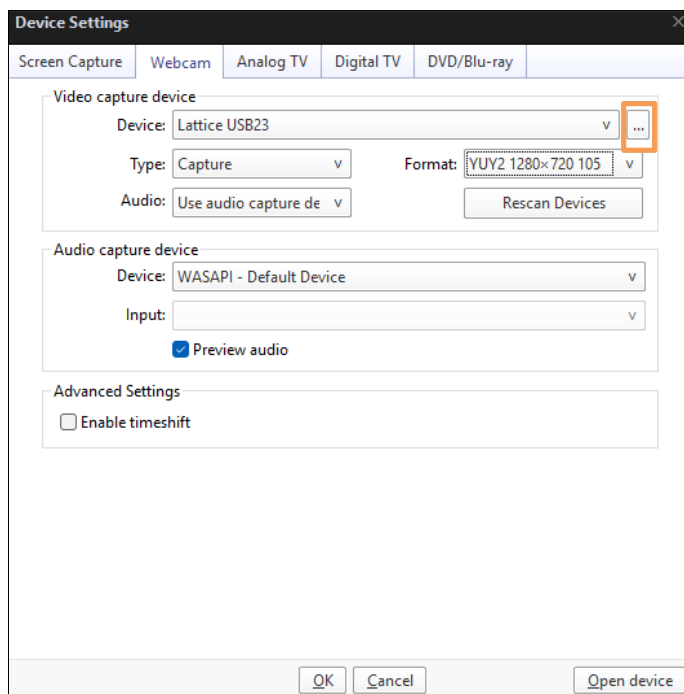

Figure 7.7. Camera Control Setting in PotPlayer 2
5. (Optional) To adjust exposure, re-open **Device Settings**, as shown in the previous steps. Then click the triple-dot menu to show the **Camera Control** menu (Figure 7.7).